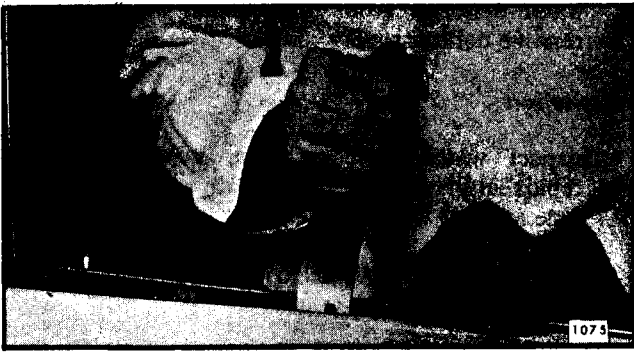

Fig. 6-8-Clip Retained Belt Sealing Strip Assembly Removal
- b. Using a flat-bladed tool that is slotted to fit over tang of clip, disengage clips from slots in door panel return flange as shown in Figure 6-8.